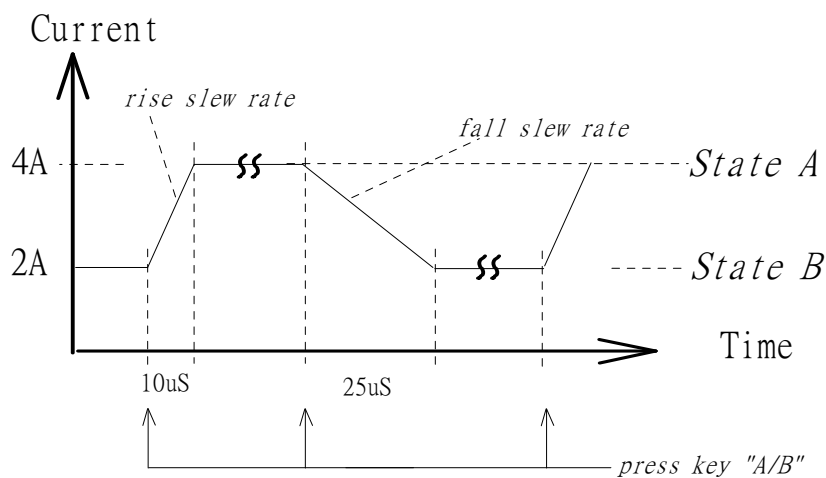

Figure 3-4 Load Level after Pressing **A/B** Key
In CC mode two operation functions (STATIC, DYNAMIC) are available for selection. STATIC function checks the stability of output voltage from a power supply. In some modules (single channel/module) there are two current levels (A or B) for static function. Both A and B states use the same range. You can select A (CCL1 or CCH1) or B (CCL2 or CCH2) through the **A/B** key on the module's keypad or Mainframe keypad when level1 (A) or level2 (B) changes. Slew rate determines the rate at which Load level changes from one load level state to another. Figure 3-4 shows the current level of load module after pressing **A/B** key.